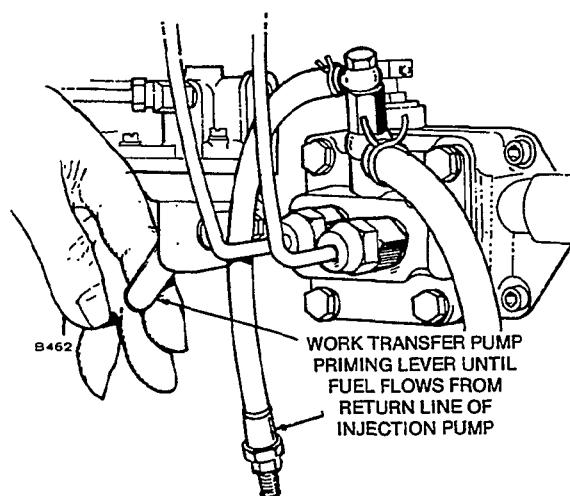

FIGURE 58. BLEEDING FUEL SYSTEM
2. Operate hand priming lever on diaphragm type fuel transfer pump until there are no air bubbles in fuel flowing from the fuel return line, Figure 58.